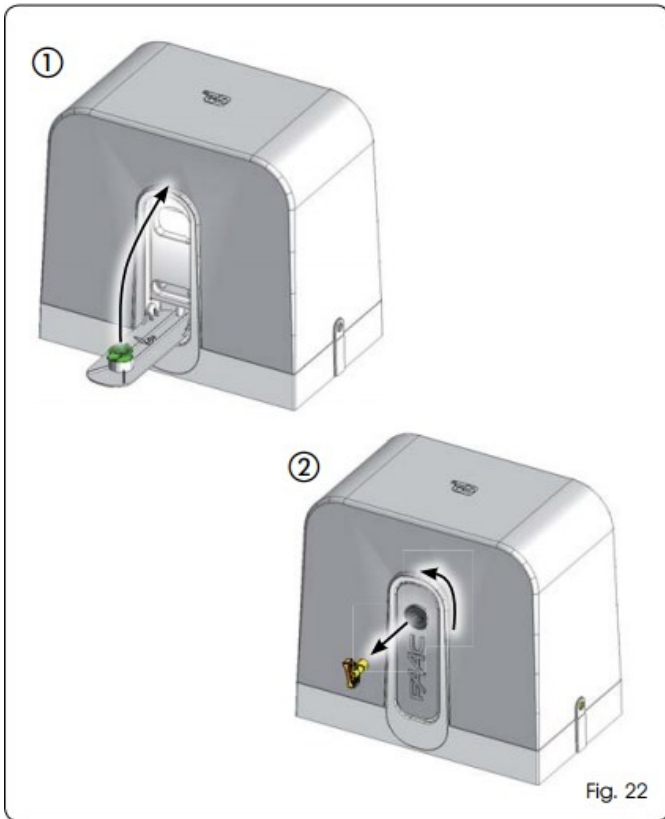

Fig. 22
1. Fully raise the release lever to the mechanical stop, Fig. 22 re. 1.
2. Turn the release anticlockwise as shown in Fig. 22 re. 2.